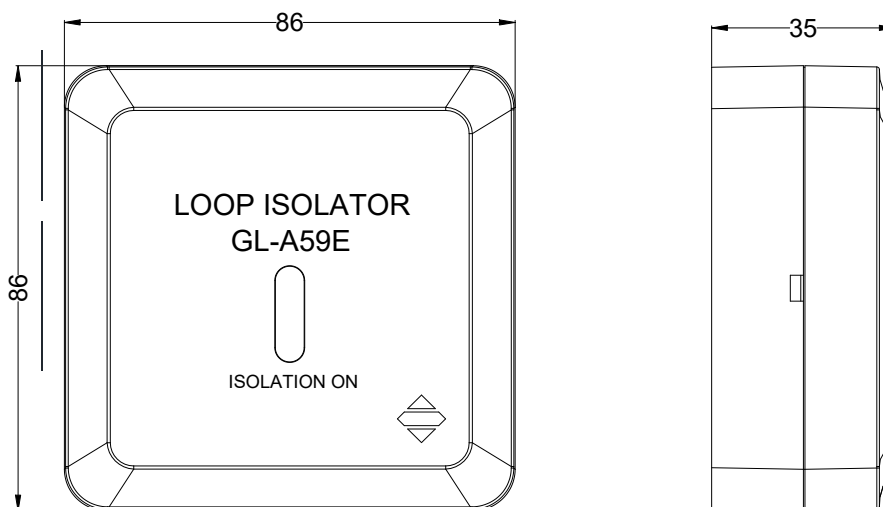

Figure 1 GL-A59E loop isolator (unit: mm)
- 3.1** The outline diagram of GL-A59E is shown in Figure 1: